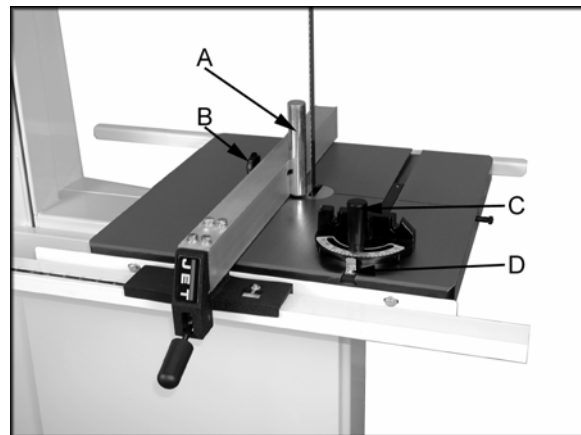

Figure 12
For resawing attach the post (A, Fig. 12) to fence with the lock knob (B, Fig. 12). There is a slotted hole in the fence that will accommodate the resaw kit. Position the post so that it is centered with the front edge of the blade. The resaw guide will give you a taller, single point contact surface during resawing.
3. If the miter gauge is not square to the blade loosen the lock knob (C, Fig. 12) and adjust to the proper setting. Tighten the lock knob.
4. If the pointer is not at 90 degrees, loosen the screw (D, Fig. 12) holding the pointer and move the pointer to 90 degrees.